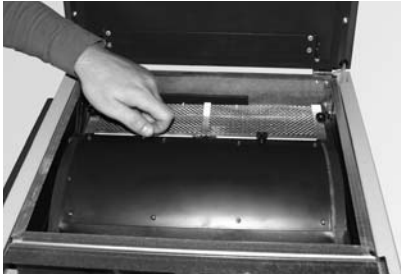
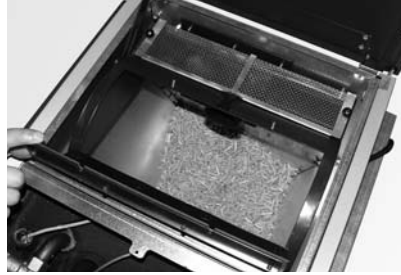

Fig. 137 Removing the knurled screws
Fig. 138 Folding open the inspection cover, removing dust
- Remove both knurled screws (Fig. 137) and fold open the inspection cover (Fig. 138).